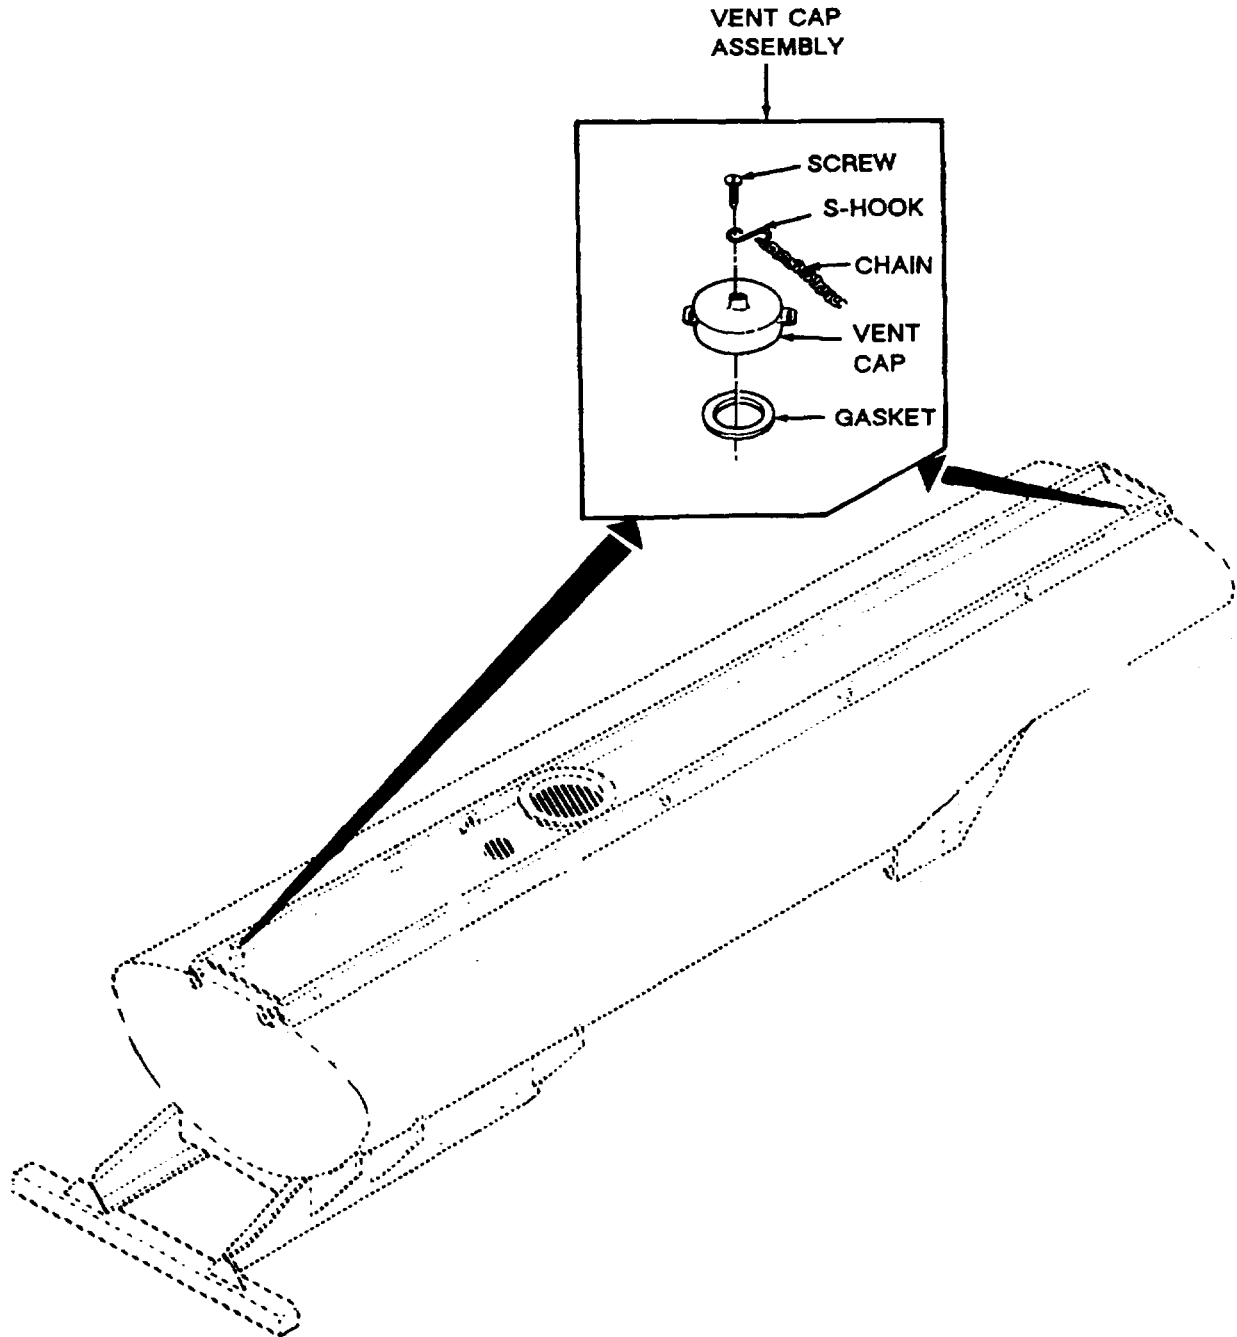

Figure 4-66. Vent Caps.
**4-60. Miscellaneous Body Parts, Fig. 4-66.**
(1) If leakage is evident at vent cap, remove vent cap and gasket. Discard gasket.
(2) Apply antiseize tape (item 28, Appendix E) to threads of pipe nipple.
(3) Install new gasket inside vent cap.
(4) Install vent cap and tighten securely using a pipe wrench.